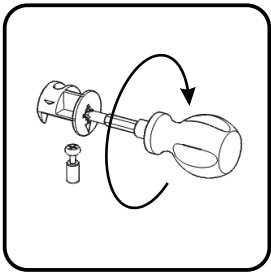

Figure 4
Attach Middle Panels (H) and (I) to unit with Cam Locks and Wood Screws for Back Panel. (See Figures 4 and 5)